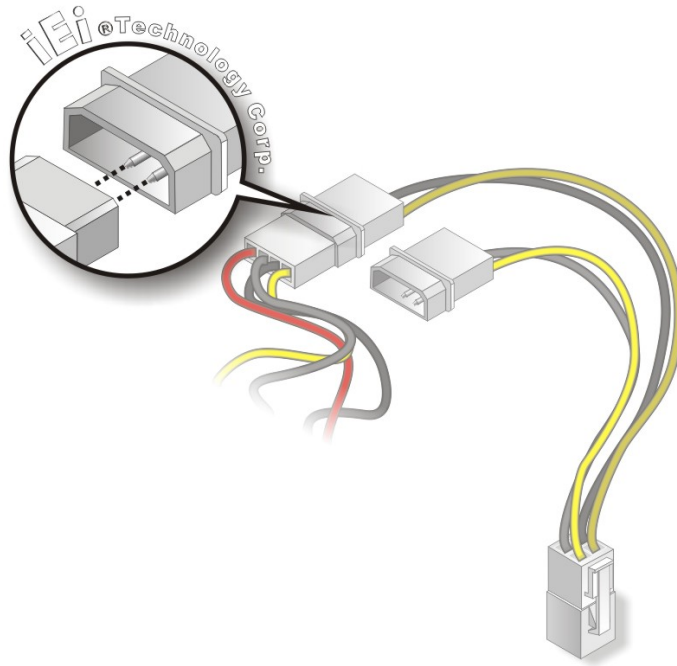

Figure 4-6: Connect Power Cable to Power Supply
Step 3: **Connect power cable to power supply.** Connect one of the 4-pin (1x4) Molex type power cable connectors to an AT/ATX power supply. See Figure 4-6.